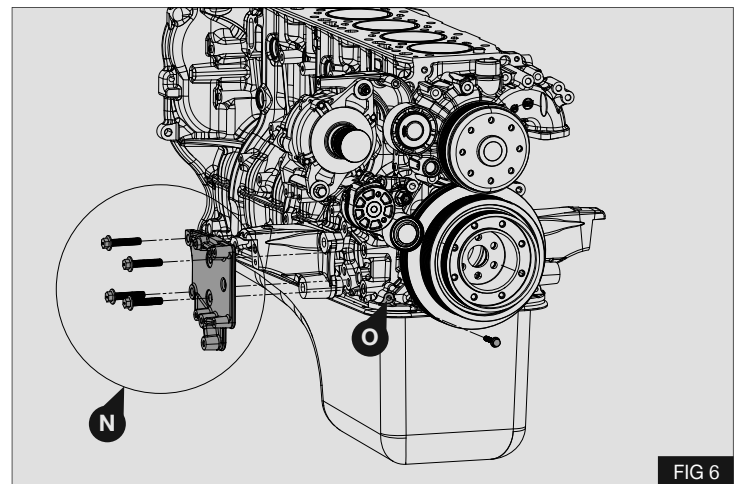

FIG 6
8. Remove and discard bracket **N** and its fasteners. Remove and discard fastener from point **O**. Clean excess paint from point **O** - Fig 6